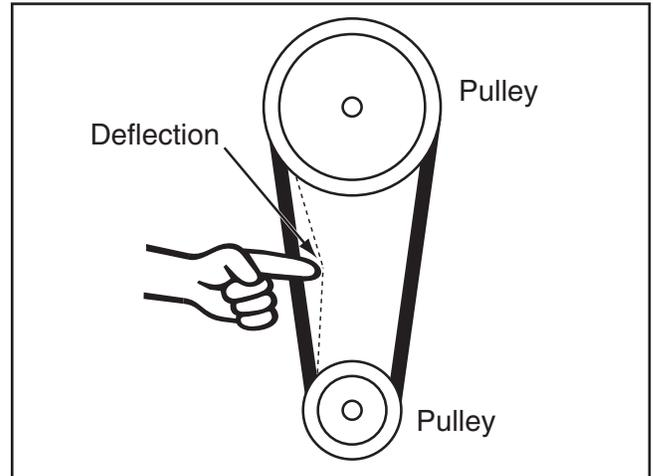

Figure 12. Belt deflection.
5. Move the belt tension lever down, adjusting tension so that $\frac{1}{2}$ " of belt deflection is measured as shown in **Figure 12**, then tighten belt tension lever screw.